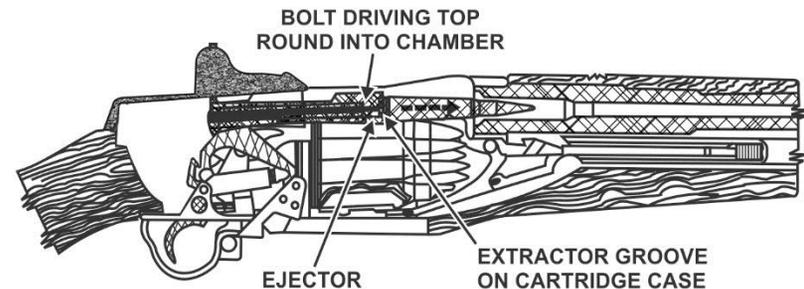

Figure 59. Chambering
2) **Chambering.** Chambering occurs when a round is moved into the chamber. This takes place as the bolt goes forward under force from the operating rod spring, picking up the top round in the clip and driving it forward into the chamber. Chambering is complete when the extractor snaps into the extracting groove on the cartridge case and the ejector is forced into the face of the bolt (fig 59).